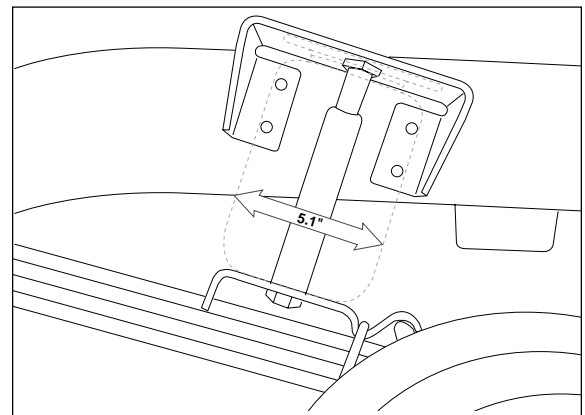

Figure 6
3. The air spring will expand to 5.1" in diameter at maximum inflation pressure. Check horizontally along the shaft of the installation tool for sufficient clearance of 2.50" all around the tool (Figure 6).